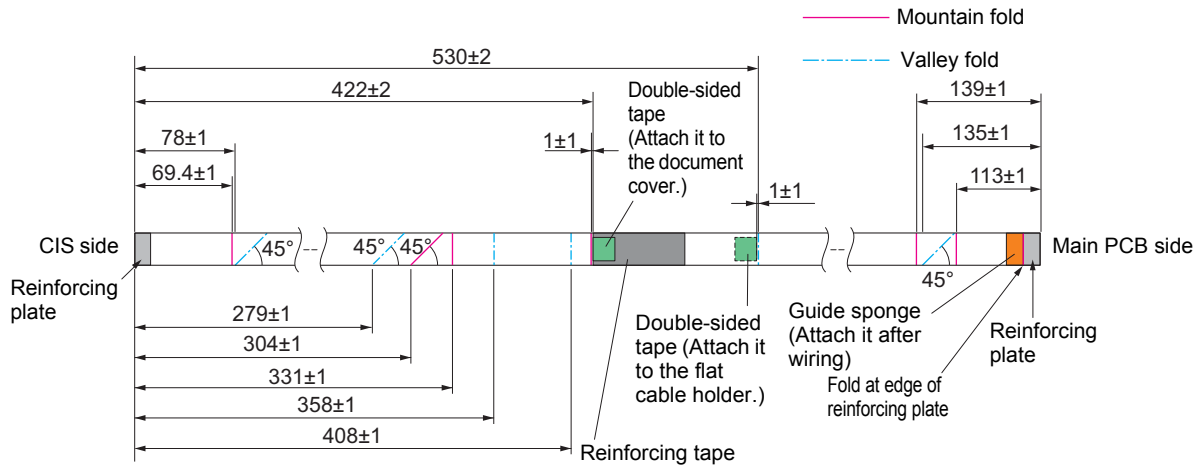
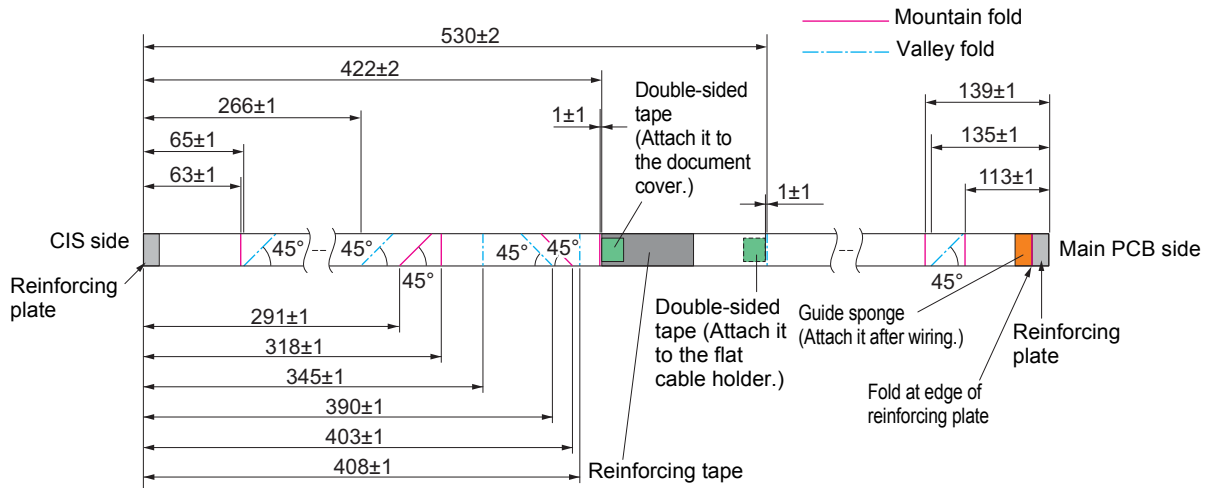

Fig. 3-49
Fig. 3-50
- For the sticking position of the double-sided tape, refer to the folding diagram of the flat cable, Fig. 3-49, Fig. 3-50 and Fig. 3-51.